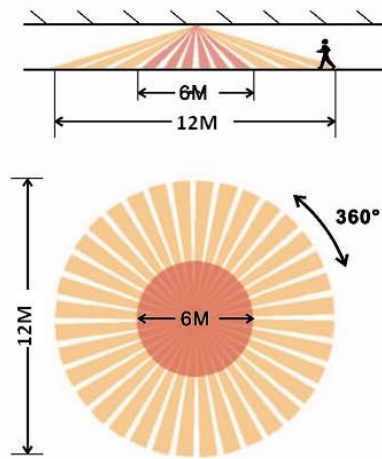

FIGURE 3
- The detector has a sensing angle of 360° and can detect up to 3 meters radius for micro motion and up to 6 meters radius for walk across motion at the mounting height of 2.5 meters. (FIGURE 3)
A drill and a screwdriver are the needed tools for installation. Select a location for the unit based on the coverage angles shown in FIGURE 3.